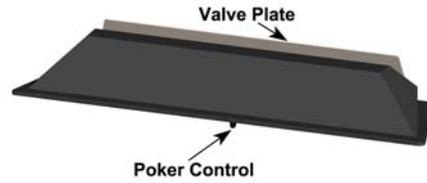

Figure 12. Damper
H. Install the cast iron damper. See Figures 12 and 13. Attach poker handle through damper to damper door. Set damper on top of firebox with handle facing toward front of the fireplace. The bottom lip of the damper should rest on the fire-